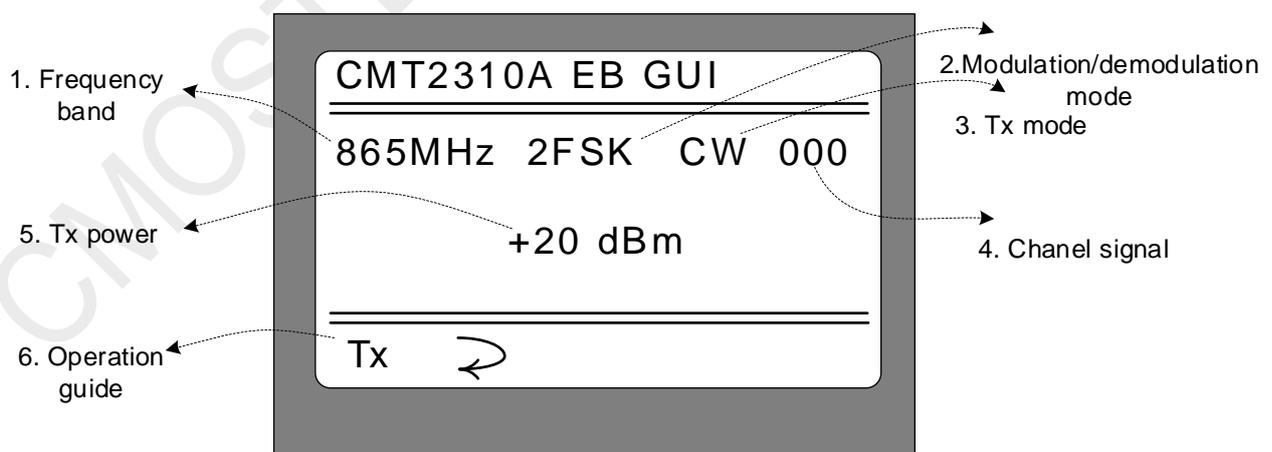

Figure 3-3. CW Tx Mode Interface
After selecting "CW Tx" mode, press K1 "O" in the main menu interface to enter the CW Tx working mode, as shown in Figure 3-3 below.
1. Under this interface, press K1 again to stop the current carrier transmission mode and return to the upper menu (as shown in Figure 3-3). That is, the carrier transmission can be alternately enabled and stopped by the K1 short press operation.